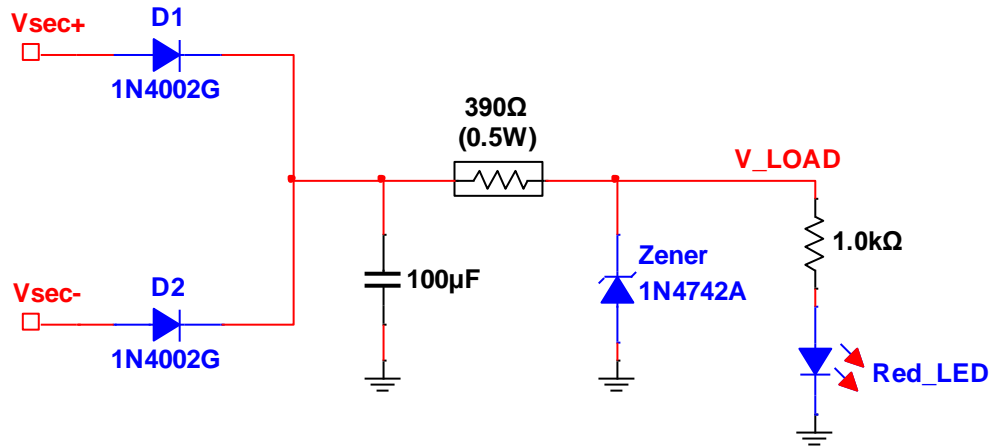

Fig. 7: Build this 12V power supply using a zener diode as the voltage regulator.
- **Step 3a:** Add the Zener diode (and other components) to your full-wave rectifier (see Fig. 7).